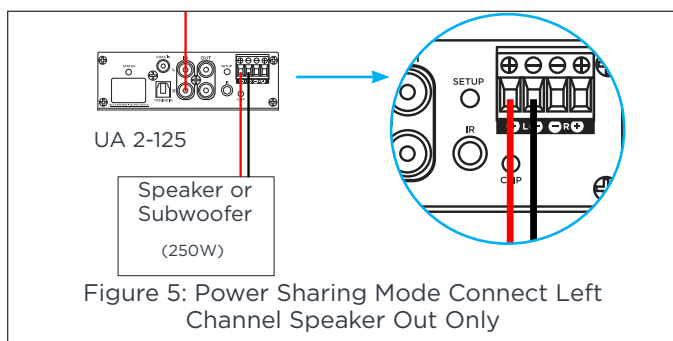

Figure 5: Power Sharing Mode Connect Left Channel Speaker Out Only
**POWER SHARING MODE:** Speaker wire connection must be made to the positive and negative wire ports on the speaker block connector on the LEFT CHANNEL ONLY. Leave the right channel ports empty (see Figure 5).